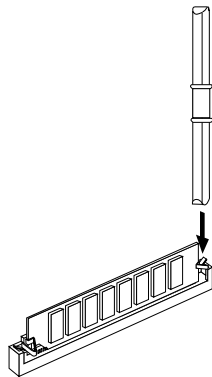

Figure 3-25 Removing a SIMM
- Use the SIMM removal tool that came with your SIMMs. Place the flat side of the tool against the side of the SIMM (as shown in Figure 3-25) and press down on the latches on each side of the SIMM.